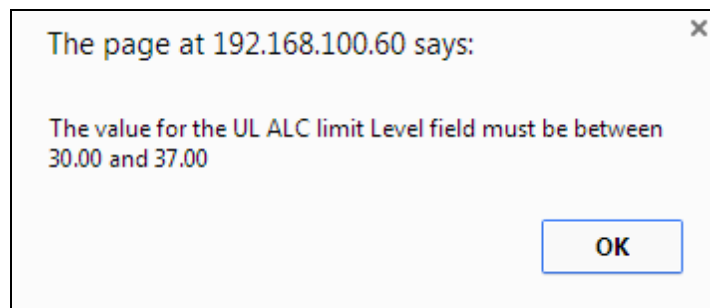

Figure 12 – Value is not into valid range error message
- If the value is not valid, an error message will be displayed (see Figure 12) and the new value will be not accepted keeping the previous value.